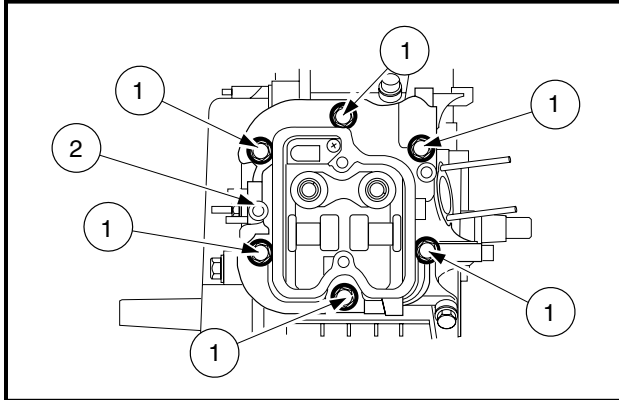

Figure 18-8 Remove Cylinder Head
1. Remove the six bolts (1) and take off the cylinder head assembly (2) (**Figure 18-8, Page 18-8**).